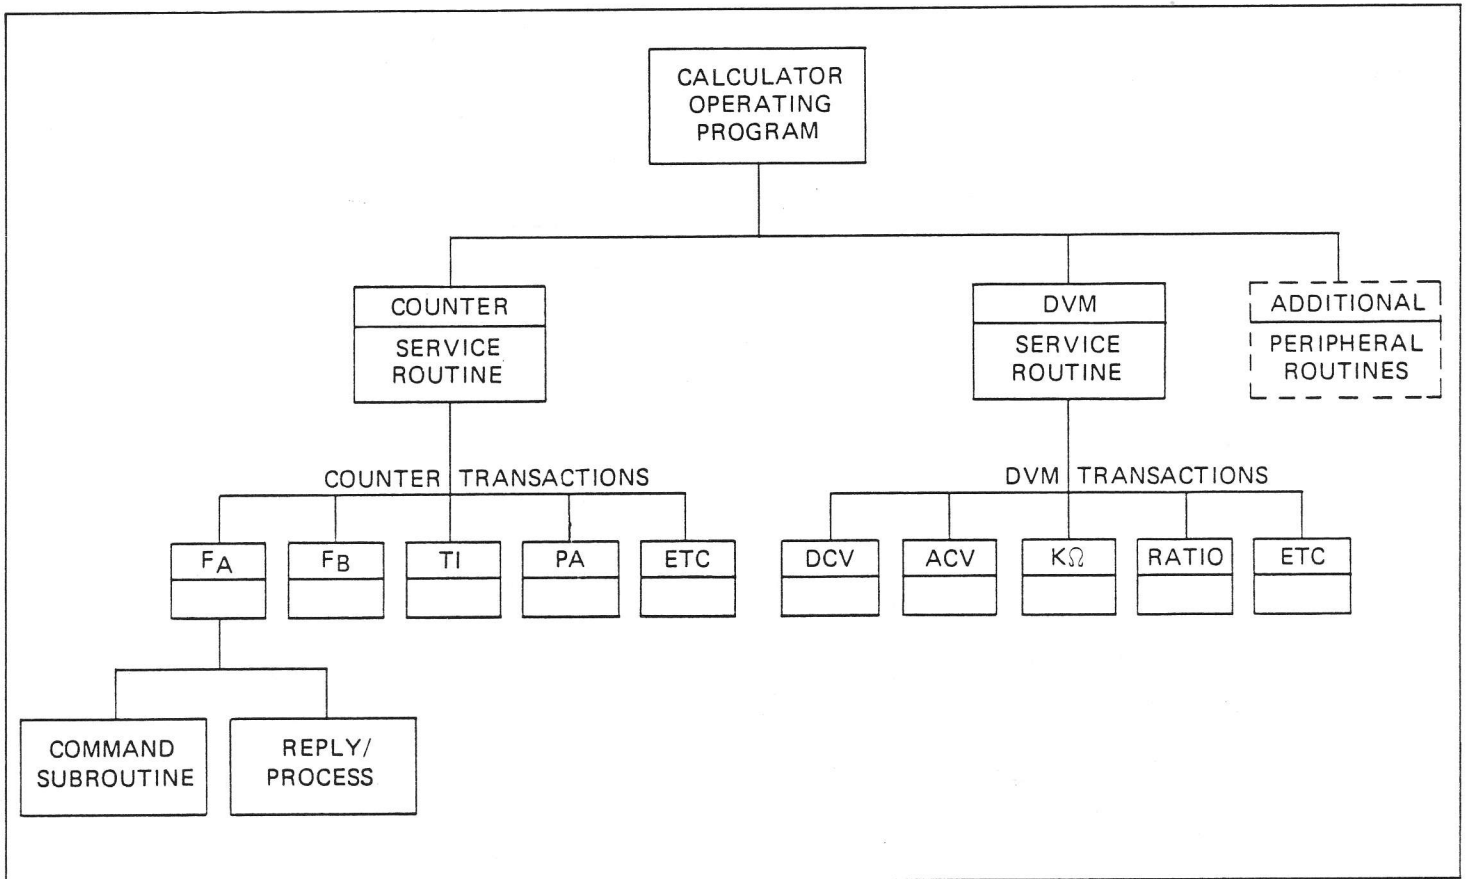

Figure 3.9 - Software Organization
3.3.9.2 A calculator, computer or other controller device software package usually includes a collection of transactions, service routines and subroutines for controlling all of the elements of a system. The relationship of the various parts of a typical software operating system are illustrated in Figure 3.9. A complete operating system may include the main executive program, the keyboard monitor program, some form of statistical routine, an arithmetic or decision making routine and a set of peripheral servicing routines. Figure 3.9 illustrates a portion of a software package referred to as an operating system. The portion illustrated is a typical collection of peripheral service routines. These peripheral service routines are groups of subroutines known as transactions. Note that the illustration shows a service routine for a counter, a digital voltmeter and a number of additional peripheral equipments. A counter service routine for the Model 9514/9515 counter might include a number of transactions, depending on the application of the instrument in the system. Each transaction will include the bus commands and device messages necessary to accomplish the specific function for each transaction. Note that the transactions shown are for FA (Frequency A), FB (Frequency B), TI (Time Interval), PA (Period Average) and any number of other transactions necessary for the particular counter application. Note that under the FA transaction block a further breakdown is illustrated: that of the command subroutine and the reply or process subroutine. This is the point in the overall software structure that the 9514/9515 device messages appear.